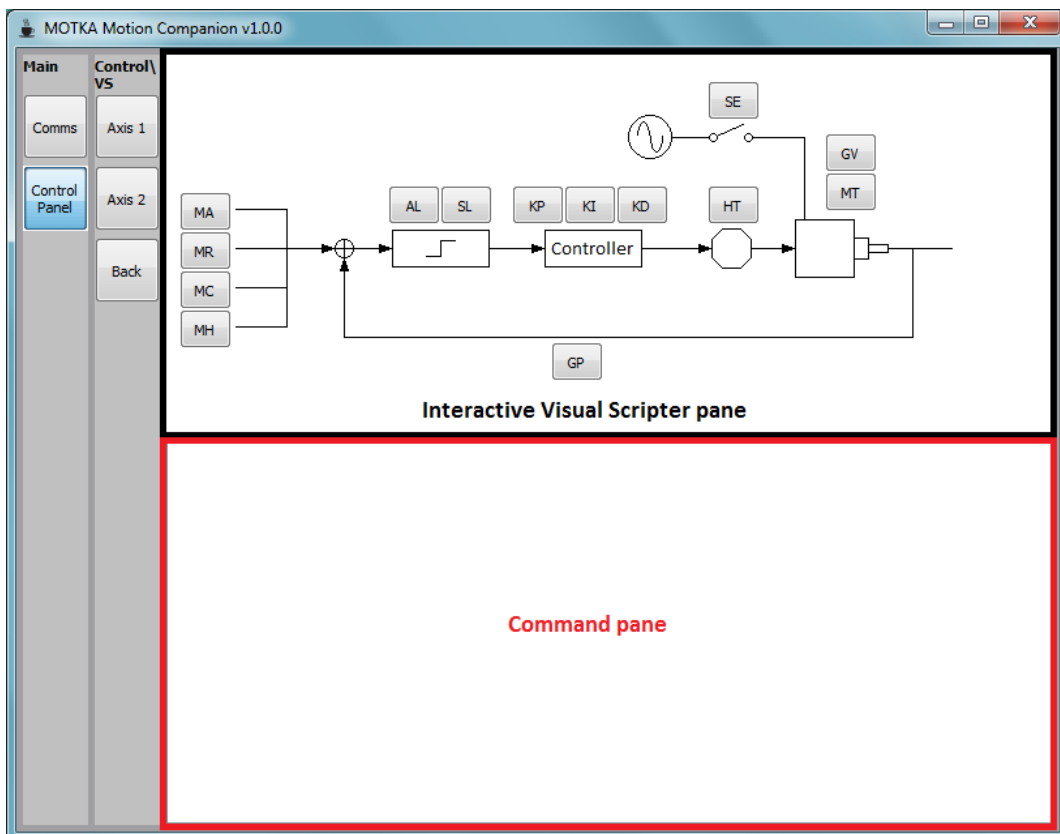

Figure 6: Visual Scripeter panel user interface
We can create script with the help of the Visual Scripiter (VS), an interactive feature that allows user to create command script visually and understand the principles of the commands listed in the *Command Reference*. The overview of the VS sub panel is as depicted in Figure 6.